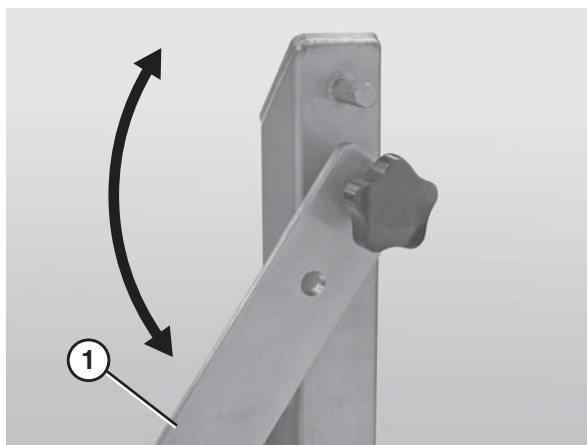

Figure 23
3. Lower the pivot bracket (Figure 23, item 1).